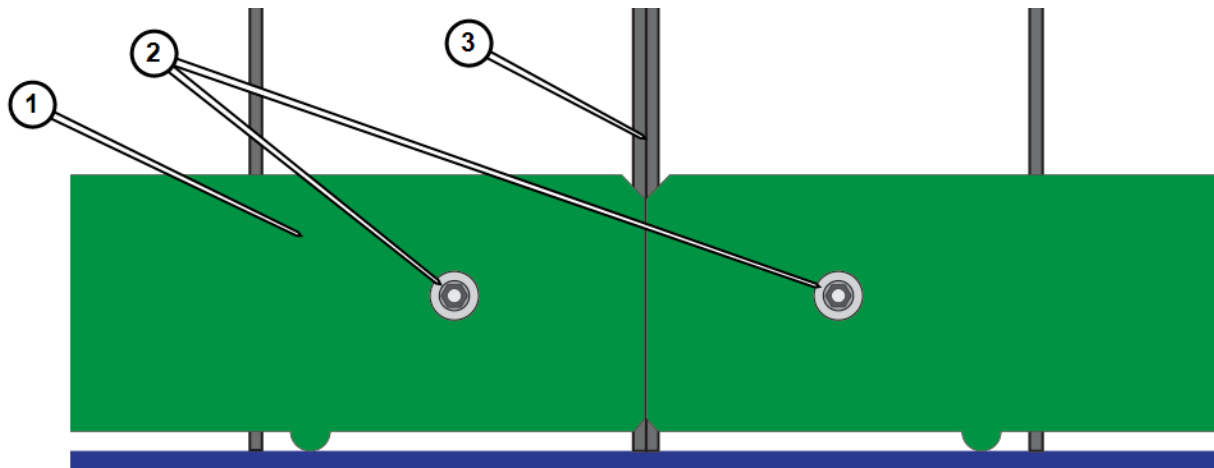

Figure 29
10. Slide the **grate clamping plates** [1] as needed to align the ends of the **grate clamping plates** with the ends where **two slat grates meet** [3] (Figure 29).